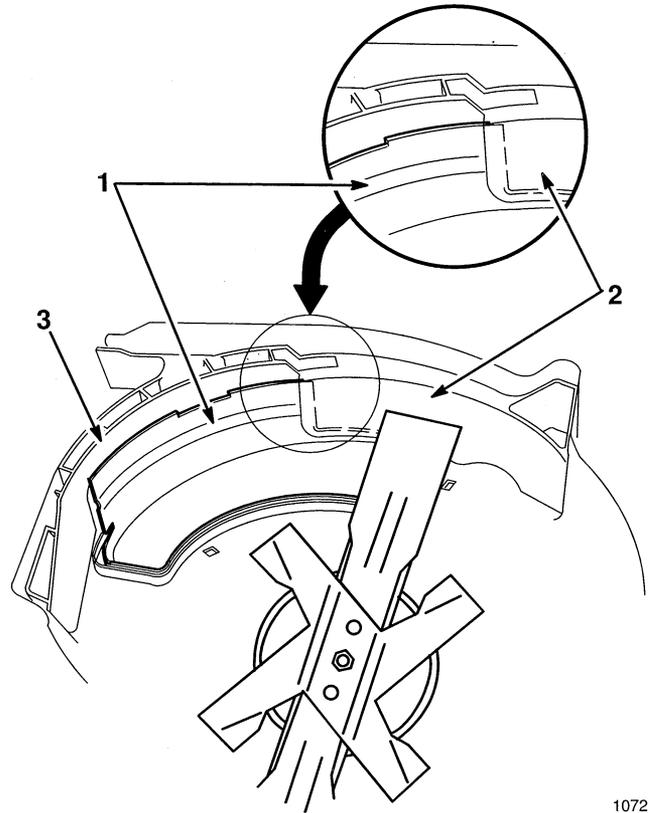

Figure 48
- Check clearance between blade tips and mulch plate baffle making sure there is no contact (Fig. 48).